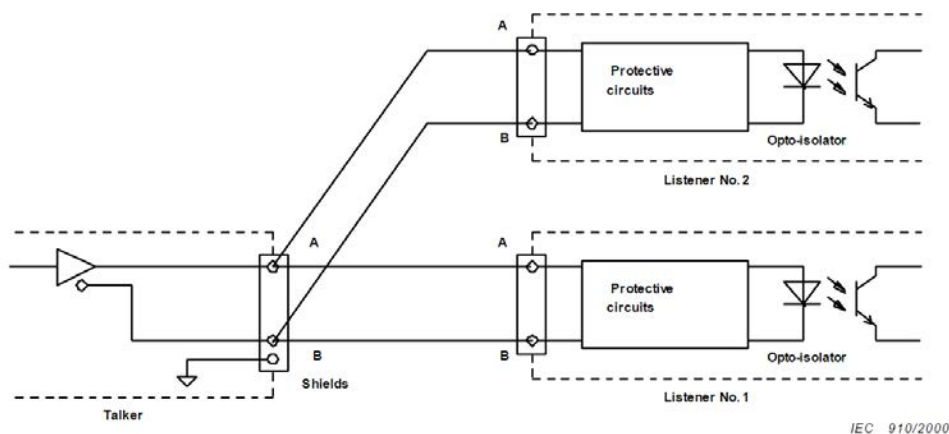

Figure 9: IEC 61162-1 Circuits
- One talker (Tx side, commonly a sensor such as GPS) may be connected to one or more listeners (Rx side, e.g. displays or computer systems such as ECDIS). The circuit looks as shown in *Figure 9: IEC 61162-1 Circuits* on page 16.